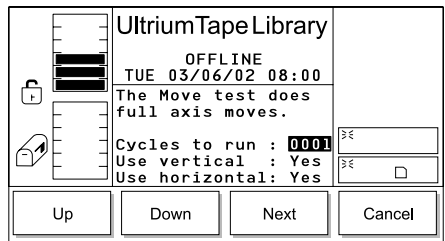

Figure 301. Move Dialog
- Press the button below the **Move** softkey. The Move Dialog displays (see Figure 301).